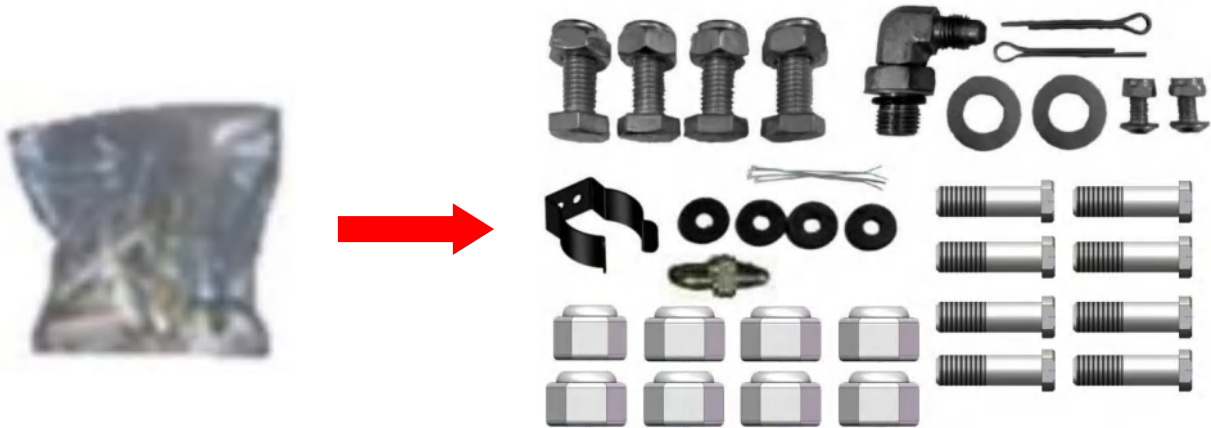

Fig.7
3. Check the parts of the parts bag according to the parts bag list (See Fig. 7).